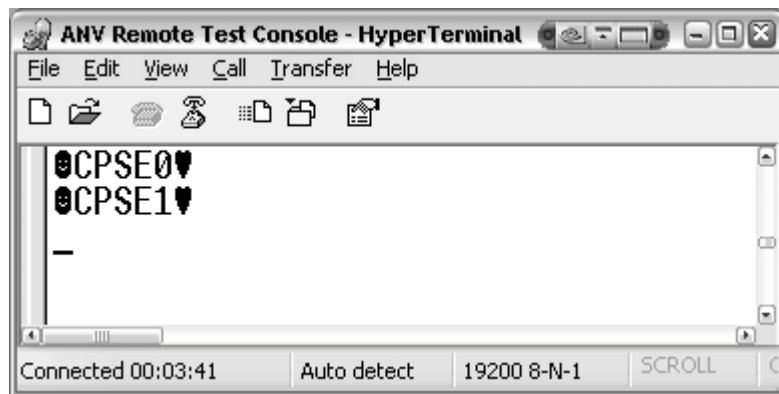

Figure 13. HyperTerminal window view after valid command reception.
9. Check that the text in the HyperTerminal window reads as indicated in figure 13.